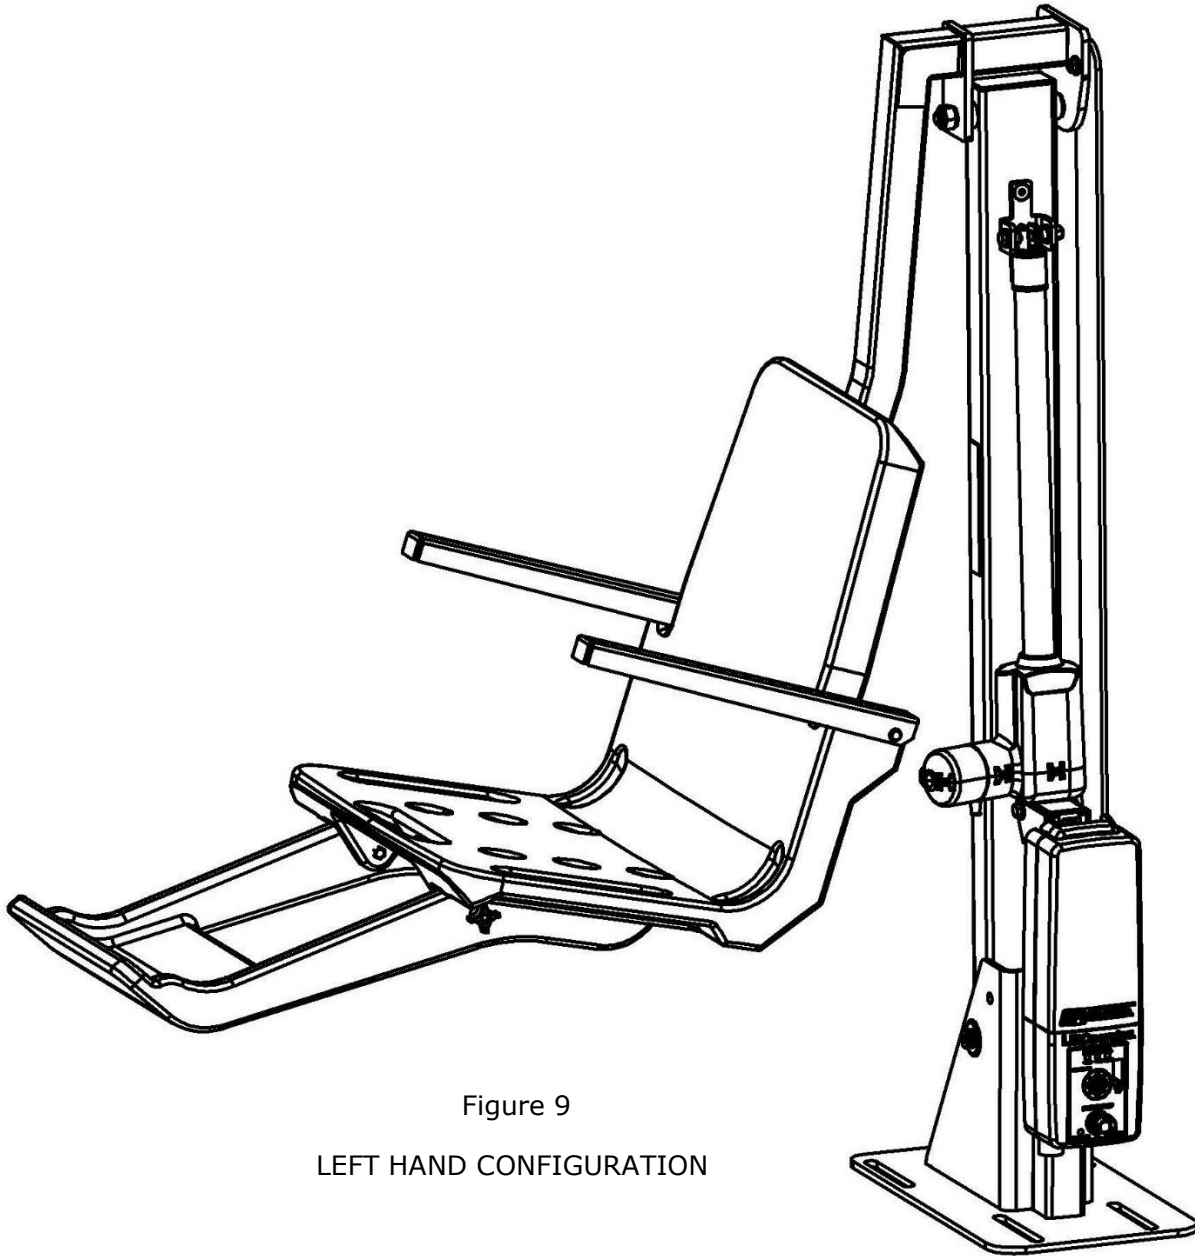

Figure 9
**Caution:** During assembly, ensure the lift actuator motor is positioned away from the seat leveling arm. Failure to install the seat leveling arm on the side of the lift opposite to the lift actuator motor will cause interference and damage to the lift components. Figure 9 shows the correct position for the actuator and seat leveling arm for a left seat mounting configuration. The main assembly for the multiLift2 is shipped with the actuator installed in the right seat mount configuration. When assembling the lift for a left seat mount configuration, the actuator must be detached from the base, rotated 180 degrees and reattached.
13. Remove the hardware connecting the actuator to the base. Rotate the actuator 180 degrees so that it is in the position shown in Figure 9 and reattach the actuator. Figure 10 shows the re-assembly sequence for bolt, washer, spacers, and nut.